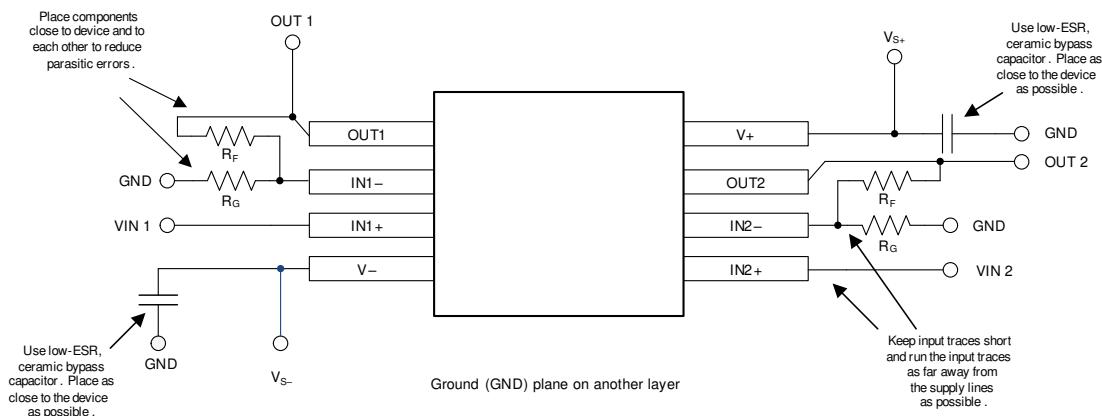

图 10-2. Layout Example
- Place the external components as close to the device as possible, as shown in 图 10-2. Keeping R_F and R_G close to the inverting input minimizes parasitic capacitance.